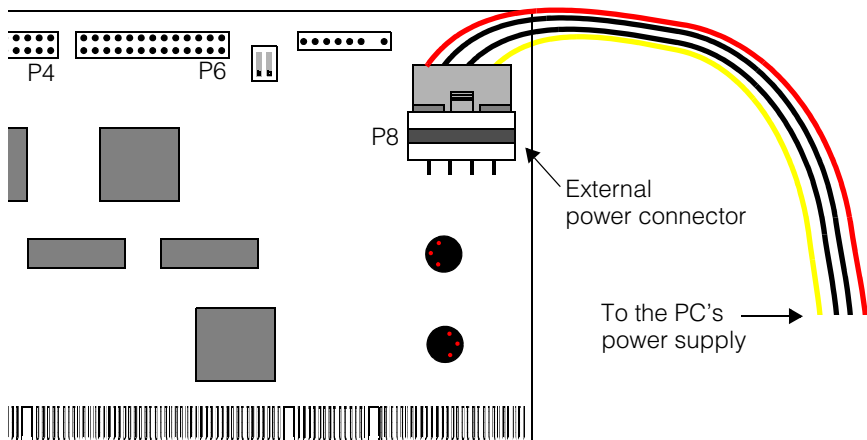

Figure 4. Connect power supply cable
5. Locate the external +12 V power connector at board position P8, as illustrated in Figure 4. Locate an unused disk drive power connector from the host PC's power supply, and connect it directly to the P8 jack. The connectors are keyed, and can only be inserted one way.